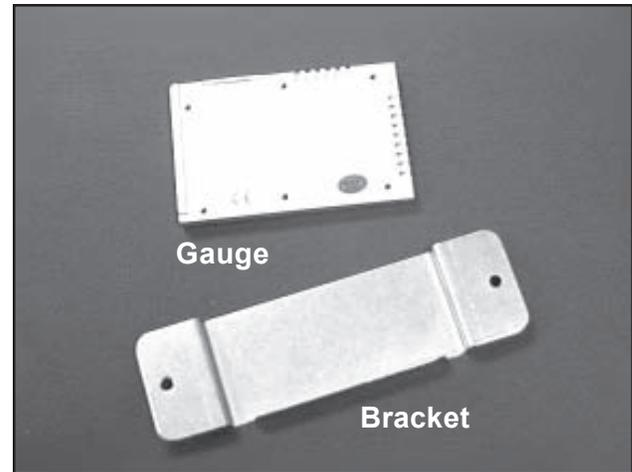

Figure 25. Rear View of the New-style Gauge (removed from door)
2. Loosely mount the gauge bracket (Figure 25) onto the inside of the oxygen door with the screws and nuts removed above. Use the existing gauge bracket mounting holes.